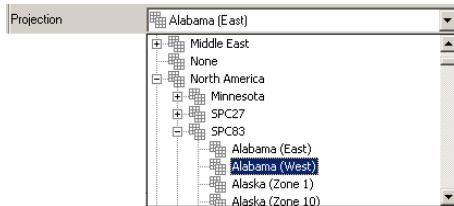

Figure 3-20. Projection List
- A projection name for the coordinate type (Figure 3-20).